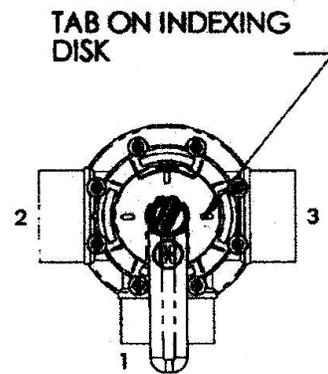

FIG 3
- Position indexing disk as shown in Fig. 3.